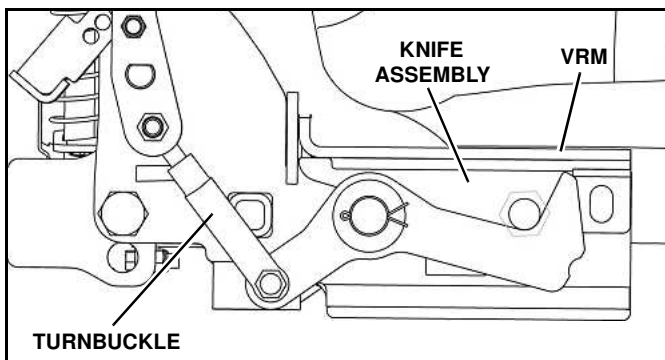
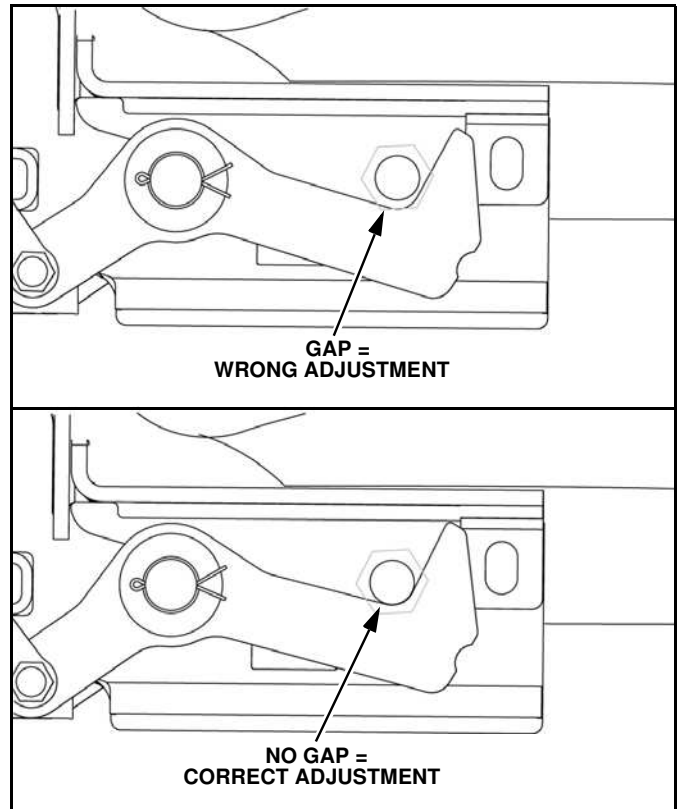

Figure 1-27
Figure 1-28
5. Once mounted, raise and lock the engagement handle. (See Figure 1-27).
NOTE: Turnbuckles are set to an approximate length from factory. Further adjustment may be needed after installation. Over extending the turnbuckle could cause the handle to become difficult to rotate completely. Periodically the turnbuckle will need to be adjusted due to wear and tear of the VRM. (See Figure 1-27 and Figure 1-28).